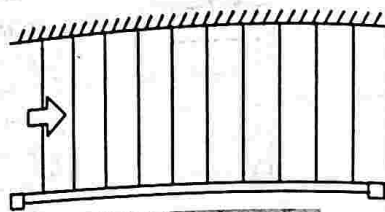

Fig. 3.14.1. Straight stair.
1. **Straight Stairs :** In case of a straight stair, all steps lead in one direction only as shown in Fig. 3.14.1.